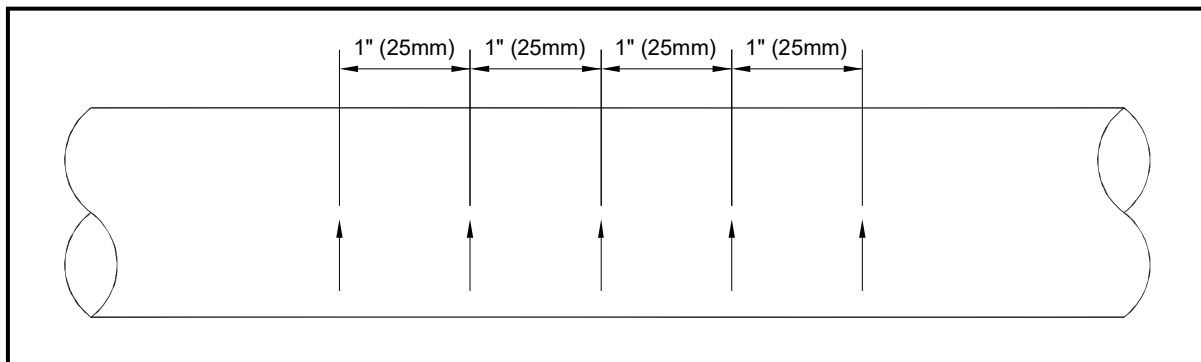

Figure 3: Measuring Thickness Along the Pipe Axis
2. Clear rust or loose paint and measure the wall thickness at five points along the pipe axis at 25 mm (1-in.) intervals using an ultrasonic thickness gage, as shown in *Figure 3* below. Check each point three times and record the mean values. If the maximum variation between the five points exceeds 0.25 mm (0.010 in.), find another location.